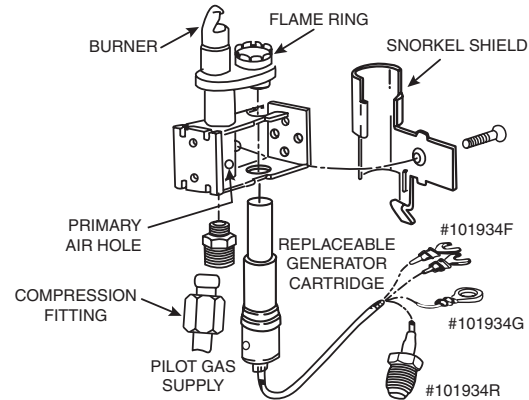

Figure 1. Typical PG9A Pilot Generator Assembly
3. Connect pilot gas tubing between valve and pilot gas orifice (Figure 1). To prevent damage to pilot generator, use a second restraining wrench on orifice base while tightening compression nut. Do not overtorque.
If top 1/2 of cartridge is not heated sufficiently by a well defined blue ring of flame, complete control system may operate sluggishly. Remove snorkel to clean out primary air hole (Figure 1). The pilot orifice may be removed for cleaning or changing by unscrewing the orifice base fitting. On old style units, a clip holds orifice in place. In the event of damage, replace generator cartridge. Be sure replacement cartridge is fully inserted when clip is reassembled.